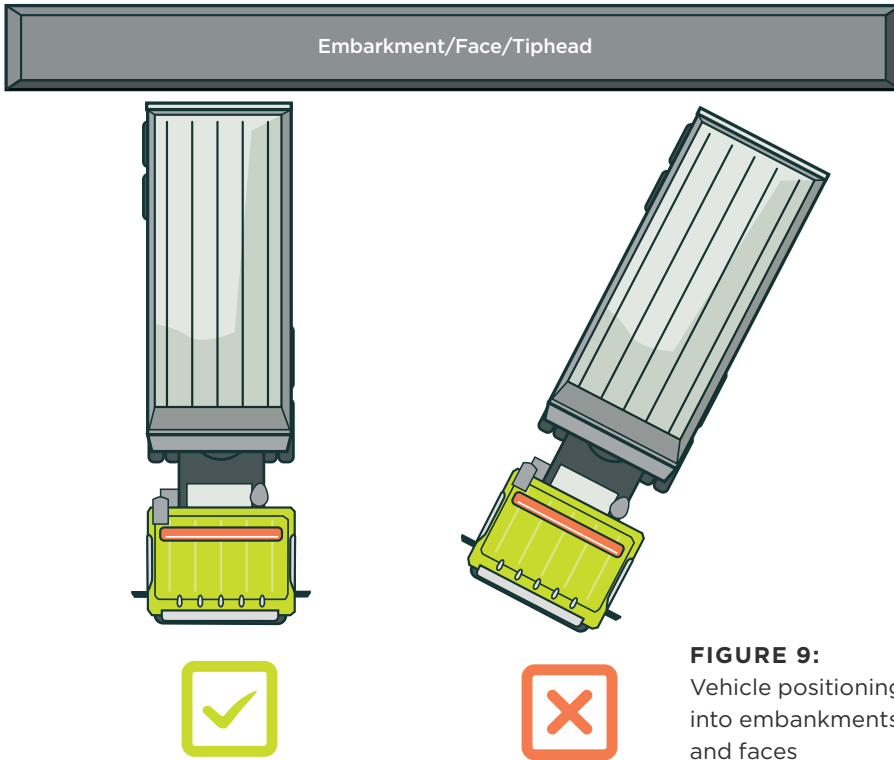

FIGURE 9:
- make sure that vehicles are positioned straight into embankments or faces when tipping (see Figure 9)